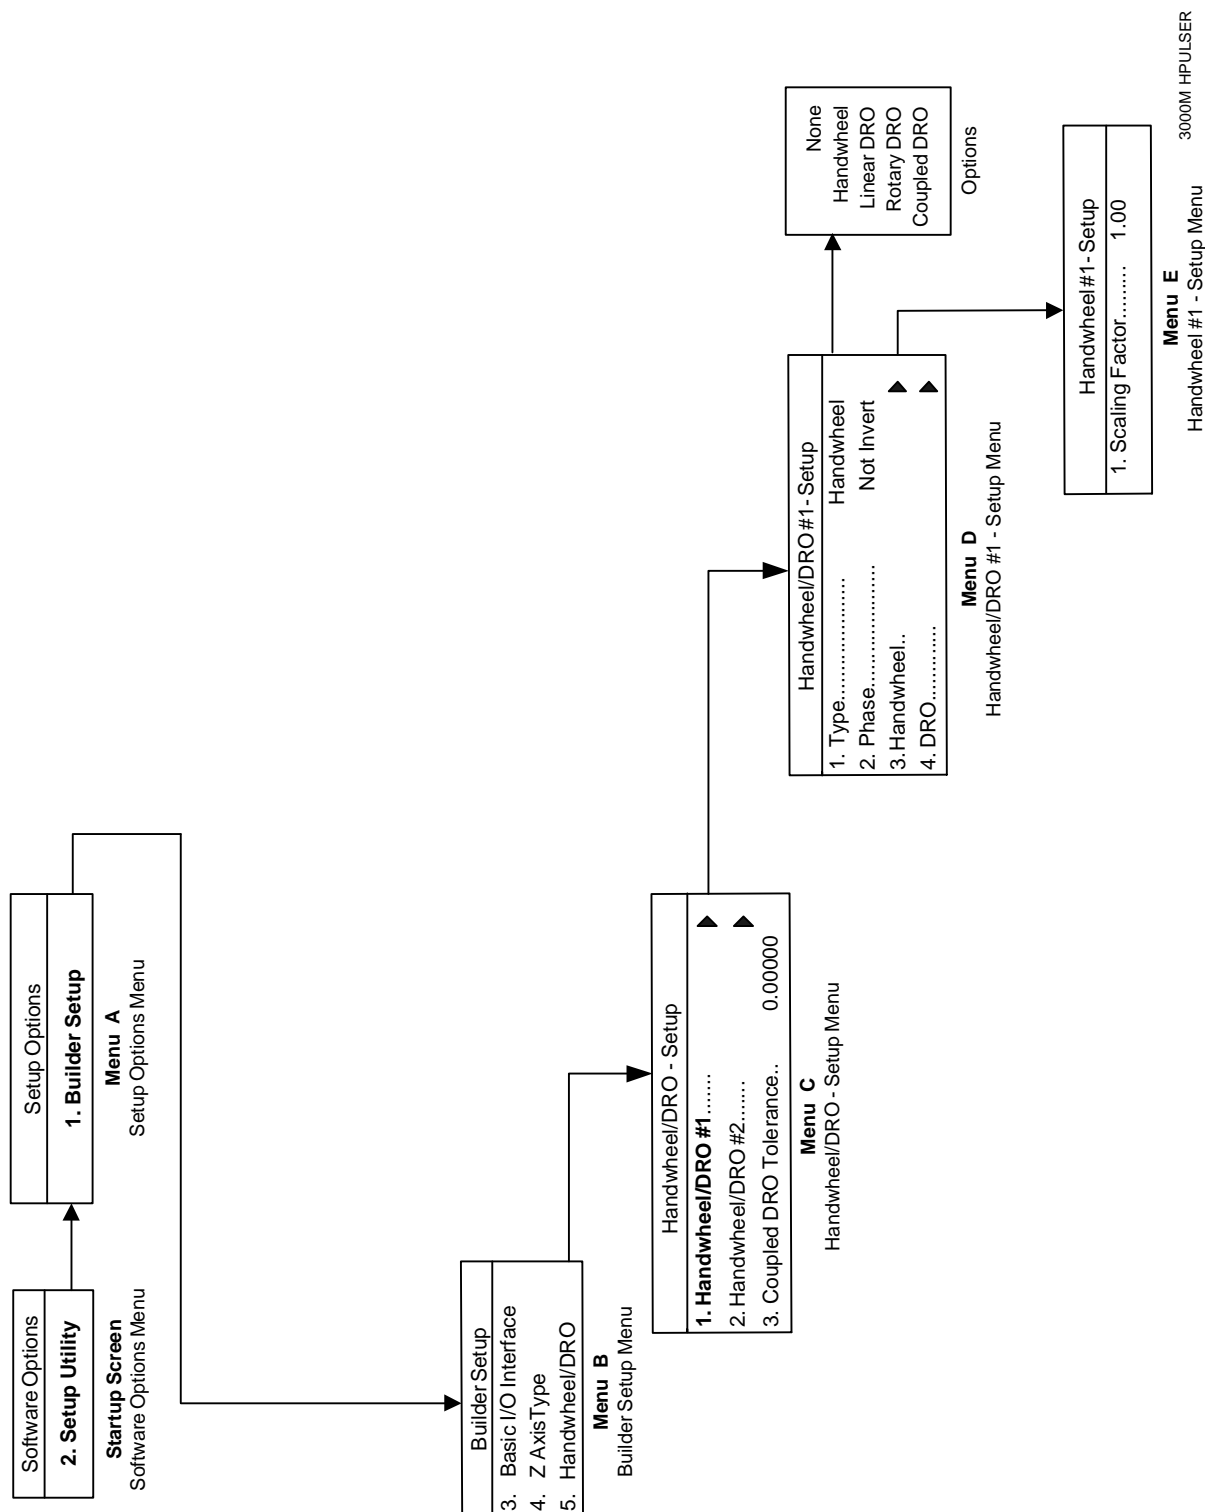

Figure 3-59, Handy Pulser Setup Menus
1. Refer to **Figure 3-59, Handy Pulser Setup Menus**, for the menus referenced in this procedure. In Manual Mode or Power-Up Mode, press **EXIT (F10)** to display the **Software Options Menu**.